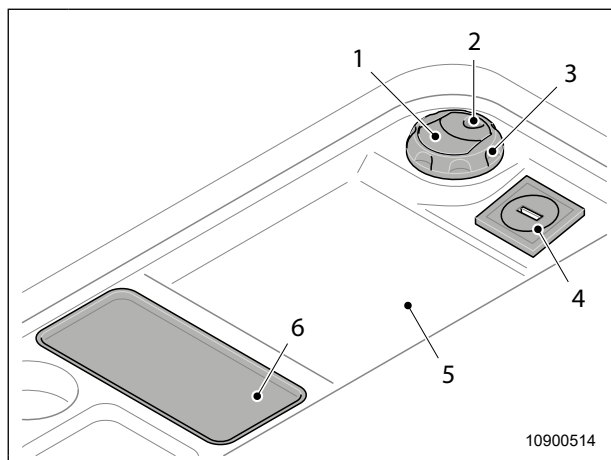

Fig. 42 Hot air outlet
- ☞ The hot air outlet (Fig. 42, item 3) is opened by pressing down the recess (Fig. 42, item 2). The supply of hot air is regulated by setting up the slats (Fig. 42, item 1).
- Depending on the equipment, the pop-up roof comes with LED lights and a USB port (Fig. 42, item 4) on the shelves (Fig. 42, item 5).
- Depending on the equipment, the pop-up roof comes with a charging tray (Fig. 42, item 6) for inductive charging of a smartphone.